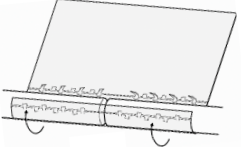

Figure 5
9. Engage additional microhooks by wrapping the shorter leaf of the device around the approximated nerve stumps (Fig. 5).